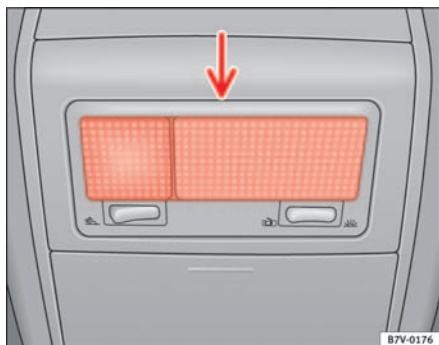

Fig. 169 Interior light
- Insert a fine screwdriver or similar between the casing and the glass (arrow) ⇒ fig. 169 and carefully remove the glass.